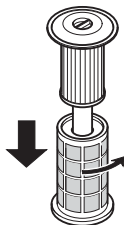

Fig.21
6. Turn the central filter protective screen anti-clockwise and pull it down from the central laminar filter (Fig. 21).